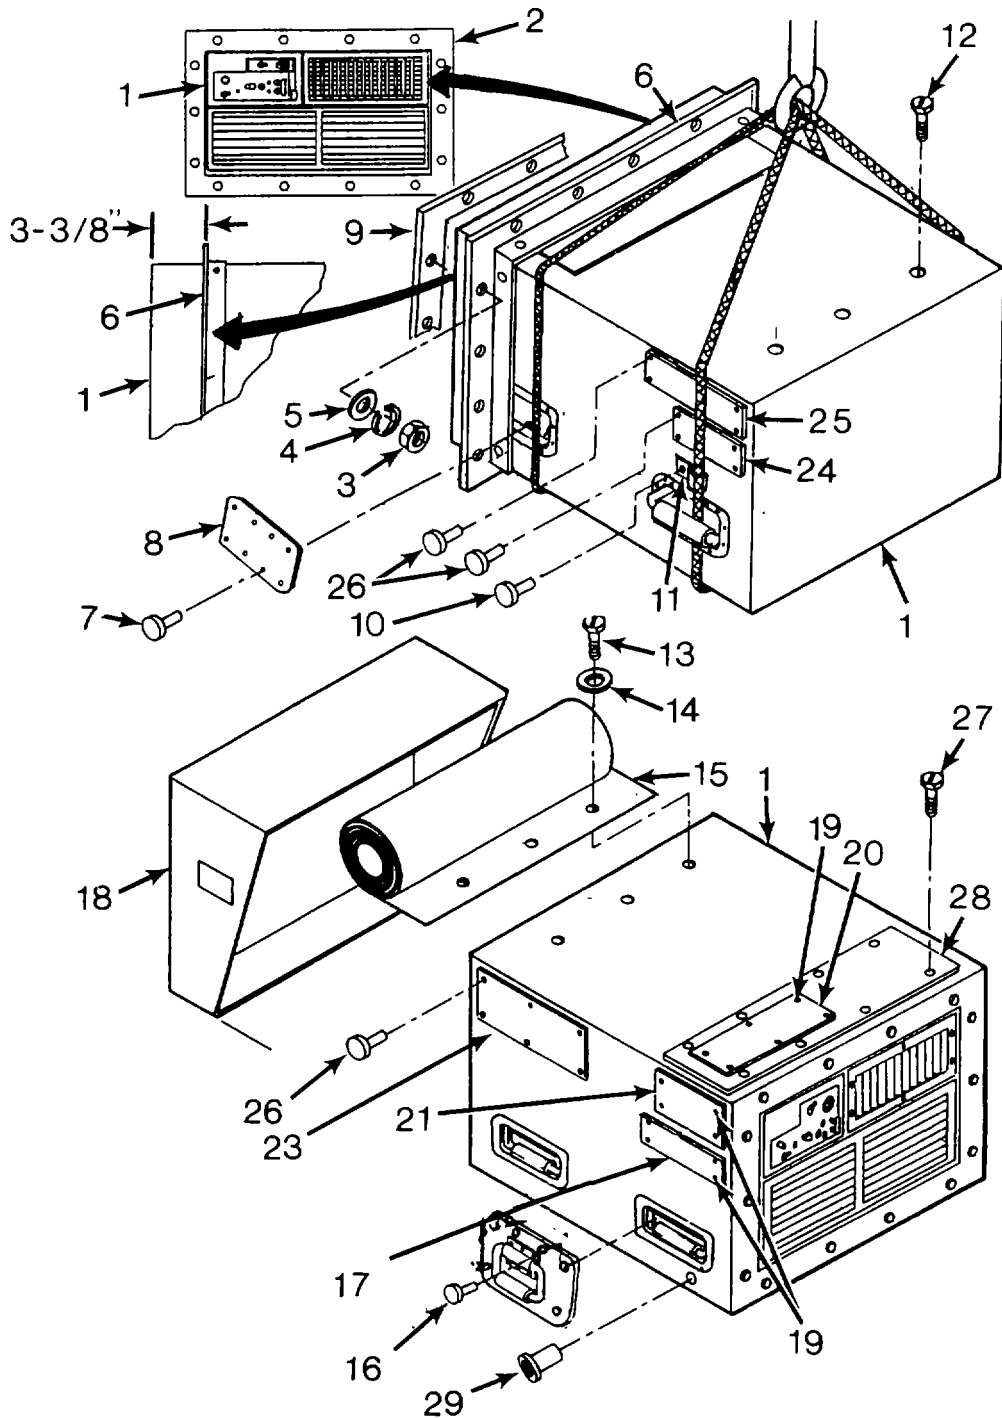

Figure 4-16. Air Conditioner, Replace
(9) From inside of shelter cut RTV sealant between air conditioner (1, Figure 4-16) and inner frame (2) (two layers).
- (10) Remove air conditioner (1) and lower to the ground.
- (11) Remove nuts (3), lockwashers (4), and flat washers (5).
- (12) Cut RTV sealant holding collar (6) to shelter wall and remove collar (6).
- (13) Drill out rivets (7) and pry off handle covers (8).
- (14) Clean RTV sealant from handle covers (8), collar (6), and outer frame (9).
- (15) Drill out rivets (10) and remove cover latches (11) from old air conditioner (2).
- (16) Remove screws (12) from old air conditioner (1).
- (17) Remove screws (13), flat washers (14), and canvas cover (15) from replacement air conditioner (1).
- (18) Drill out rivets (16) and remove front handles (17) from replacement air conditioner (2).
- (19) Position cover (18) on replacement air conditioner (1). Locate cover latch positions and drill mounting holes. Install cover latches (11) on replacement air conditioner with rivets (10).
- (20) Install canvas cover (15), flat washers (14), and screws (13) on old air conditioner (1).
- (21) Install screws (12) on replacement air conditioner (1).
- (22) Chisel off rivets (19) and remove data plates (20), (21), and (22) from replacement air conditioner (1) and relocate to positions (23), (24) and (25) shown in Figure 4-16 and install with rivets (26).
- (23) Install rivets (14) in old data plate mounting holes on replacement air conditioner (1).
- (24) Apply RTV sealant (Appendix E, item 2) to handle covers (8) and install on replacement air conditioner (1) with rivets (7).
- (25) Slide collar (6) onto front of replacement air conditioner (1) and position 3-3/8 inches from the front as shown in Figure 4-16.
- (34) Coat the face of the collar (6, Figure 4-16) that mates with the outer frame (9) with RTV sealant (2, Appendix E).
- (35) Raise air conditioner (1) and position into outer frame (9).
- (38) Apply RTV sealant (3, Appendix E) to interior joint between air conditioner (1, Figure 4-16) and inner frame (2).